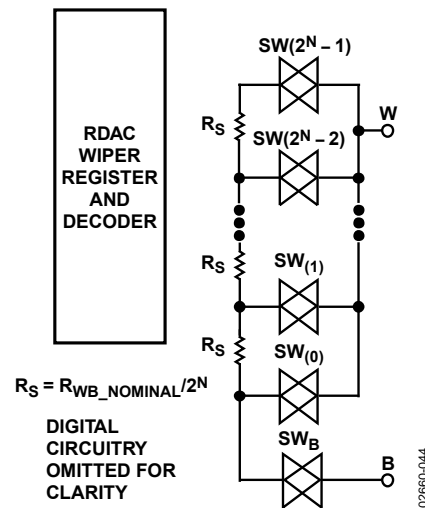

Figure 32. Equivalent RDAC Structure
The RDAC contains multiple strings of equal resistor segments with an array of analog switches that acts as the wiper connection. The number of positions is the resolution of the device. The ADN2850 has 1024 connection points, allowing it to provide better than 0.1% setability resolution. Figure 32 shows an equivalent structure of the connections among the three terminals of the RDAC. The SW_B is always on, while the switches, SW(0) to SW(2^N - 1), are on one at a time, depending on the resistance position decoded from the data bits. Because the switch is not ideal, there is a 30 Ω wiper resistance, R_W. Wiper resistance is a function of supply voltage and temperature. The lower the supply voltage or the higher the temperature, the higher the resulting wiper resistance. Users should be aware of the wiper resistance dynamics, if accurate prediction of the output resistance is needed.
The 10-bit data-word in the RDAC latch is decoded to select one of the 1024 possible settings. The following description provides the calculation of resistance, R_{WB} , at different codes of a 25 k Ω part. The first connection of the wiper starts at Terminal B for Data 0x000. $R_{WB}(0)$ is 30 Ω because of the wiper resistance, and it is independent of the nominal resistance. The second connection is the first tap point where $R_{WB}(1)$ becomes 24.4 Ω + 30 Ω = 54.4 Ω for Data 0x001. The third connection is the next tap point representing $R_{WB}(2)$ = 48.8 Ω + 30 Ω = 78.8 Ω for Data 0x002, and so on. Each LSB data value increase moves the wiper up the resistor ladder until the last tap point is reached at $R_{WB}(1023)$ = 25006 Ω . See Figure 32 for a simplified diagram of the equivalent RDAC circuit.